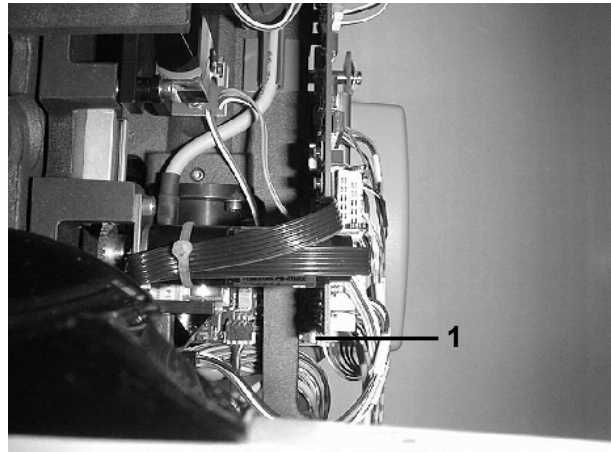

Fig. 51
- If this reading is not obtained, adjust the R 25 potentiometer ((1) Fig. 51) as required.